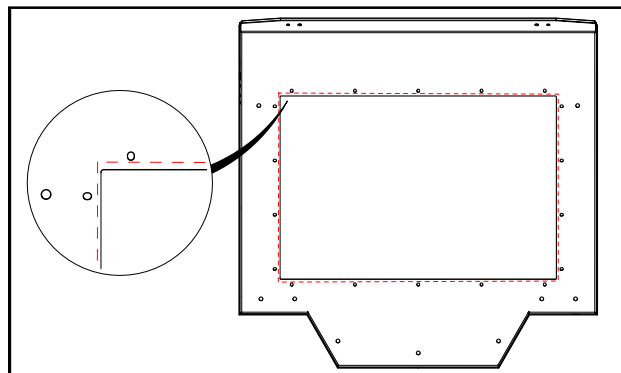

Fig. 2.5 (Apply Silicone)
- 2.5** Apply a bead of silicone along the perimeter of the opening in the roof (the top, exterior surface). The bead shall be inside of the fastener holes as illustrated with the dashed lines in the enlarged view of Figure 2.5.